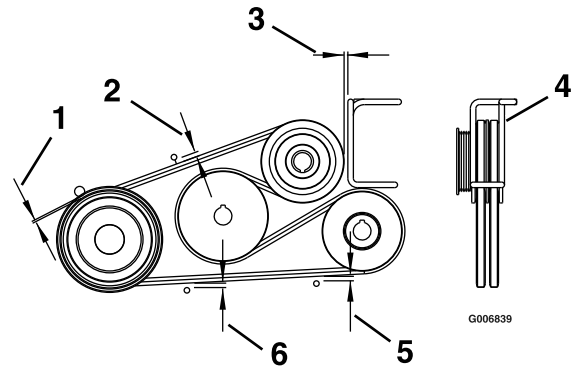

Figure 52
4. Adjust the belt guides as shown in Figure 52.